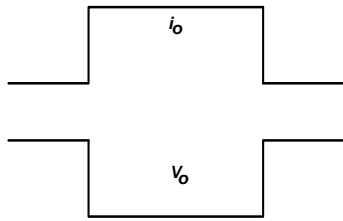
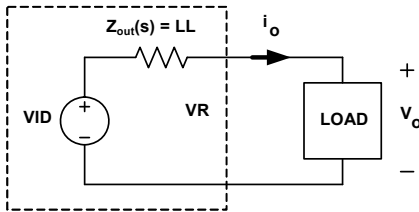

FIGURE 25. DESIRED LOAD TRANSIENT RESPONSE WAVEFORMS
FIGURE 31. VOLTAGE REGULATOR EQUIVALENT CIRCUIT
Assuming the compensator design is correct, Figure 25 shows the expected load transient response waveforms if C_n is correctly selected. When the load current I_{CORE} has a square change, the output voltage V_{CORE} also has a square response.
Figure 25 on page 29 shows the desired load transient response waveforms. Figure 31 shows the equivalent circuit of a voltage regulator (VR) with the droop function. A VR is equivalent to a voltage source (= VID) and output impedance $Z_{\text{out}}(s)$. If $Z_{\text{out}}(s)$ is equal to the load line slope LL, i.e., a constant output impedance, then in the entire frequency range, V_o will have a square response when I_o has a square change.